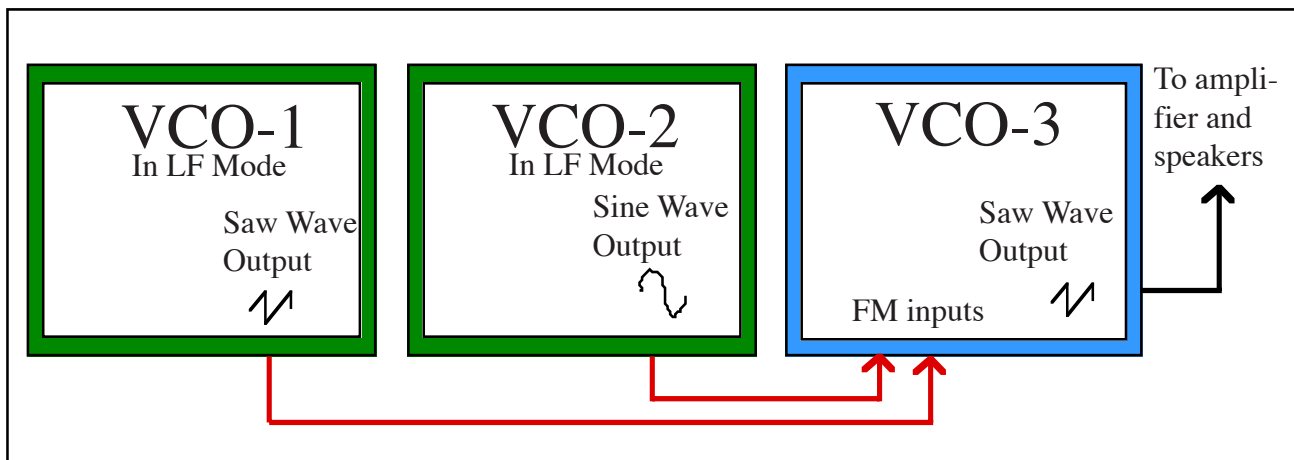

Figure 4-2: A basic double modulation patch
tion, two of the FM inputs on an oscillator are used simultaneously. In Figure 4-2, VCO-3 is the carrier while both VCO-1 and VCO-2 modulate its frequency. This more complex patch can be thought of as two basic FM patches which happen to share a carrier. Remember that just about any complex patch can be broken down into two or more simple patches.
1. Create the double modulation patch shown in Figure 4-2 and experiment with each of the seven or eight parameters. Do not stop until all of the possibilities have been exhausted. Have patience and try all of the possibilities. This is not a quick procedure. It is important to constantly ask the following questions: